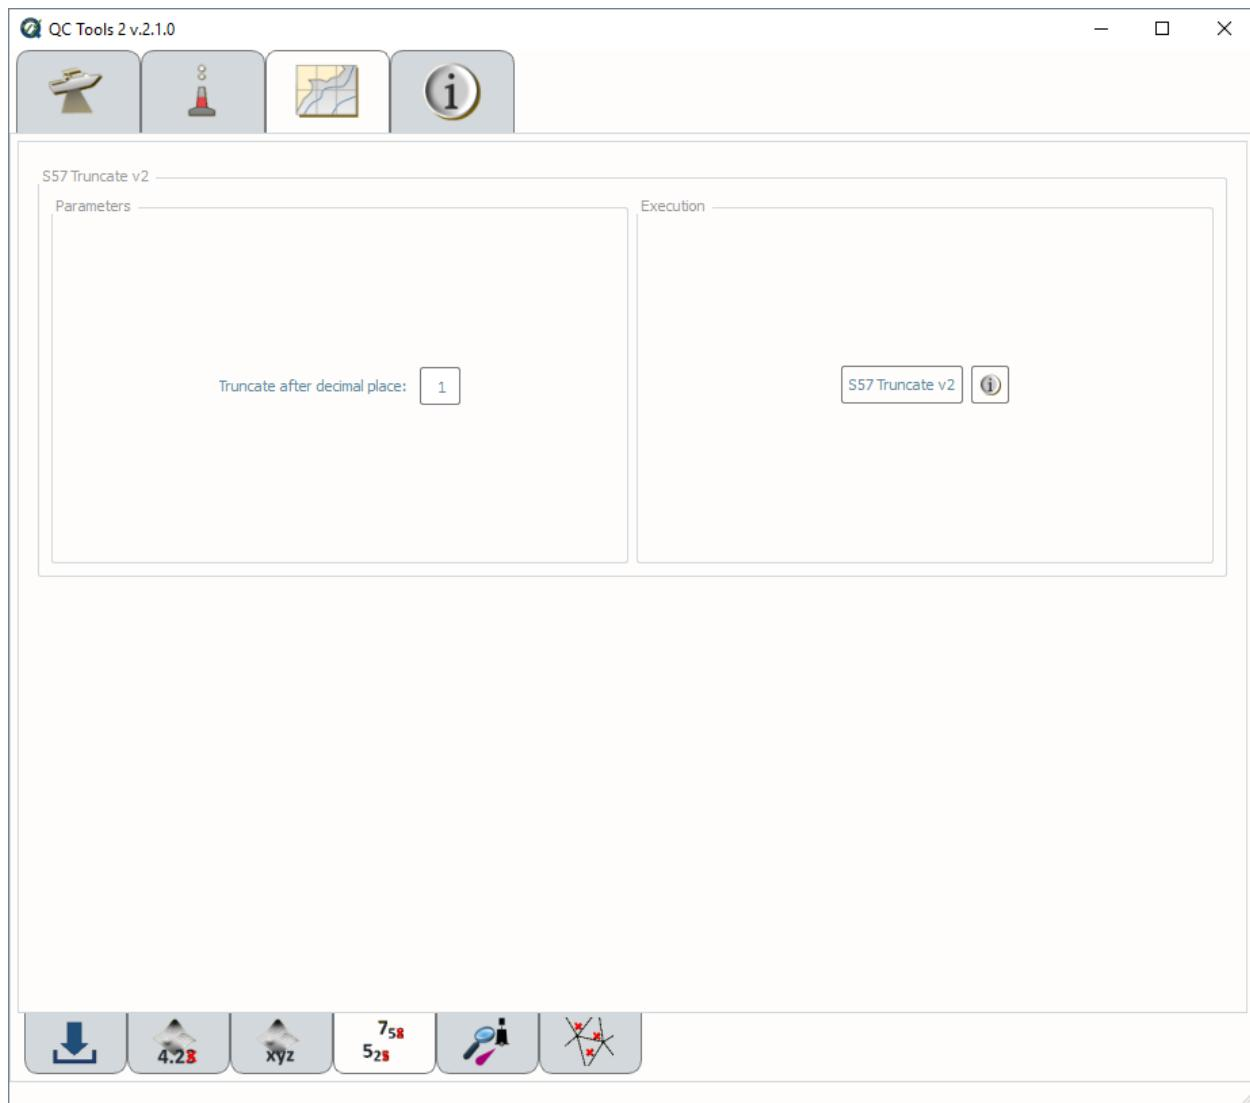

Fig. 2.63: S57 Truncate.
- In **Execution** (Fig. 2.63), click **S57 Truncate v2**.